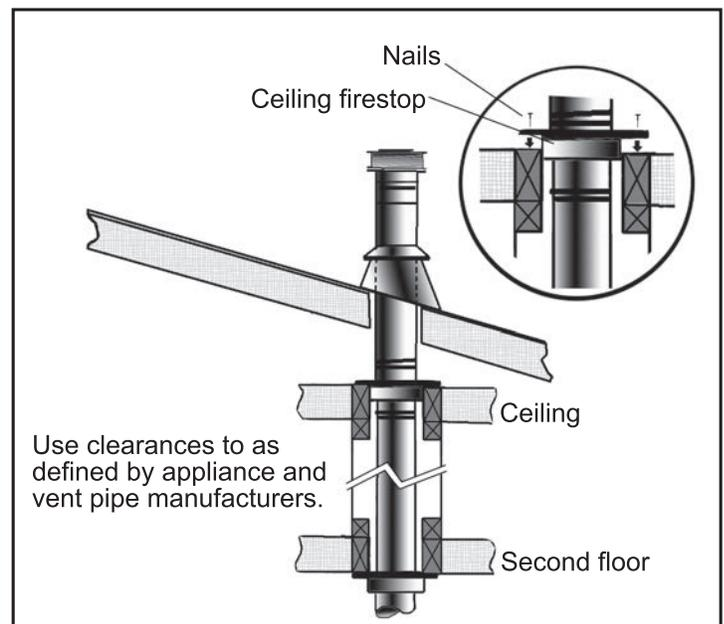

Fig. 32 Multi-Story Vent Pipe Installation
3. For multi story installations; a ceiling firestop is required at the second floor and any subsequent floors (**Fig. 32**). The opening should be framed to 10" (254 mm) x 10" (254 mm) inside dimensions, in the same manner as shown in **Fig. 22**.